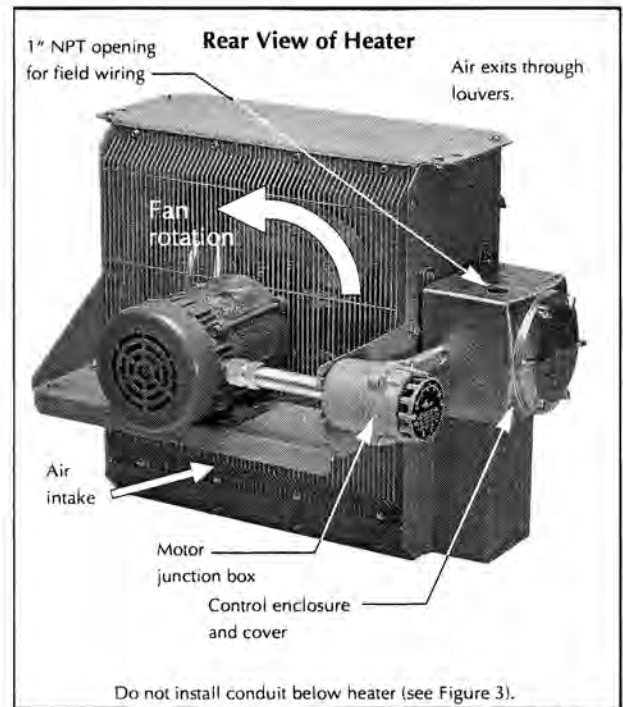
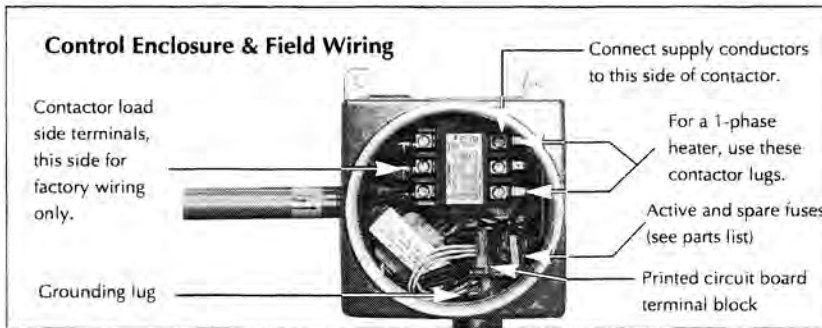

FIGURE 5
FIGURE 6
1. Supply conductors, ground conductor, and room thermostat conductors (see point 2, page 5) pass through the 1" NPT opening (see Figure 5) and are to be wired into the control enclosure (see Figure 6).
- e. ensure that the fan rotates freely. See Figure 5 for proper direction of fan rotation.